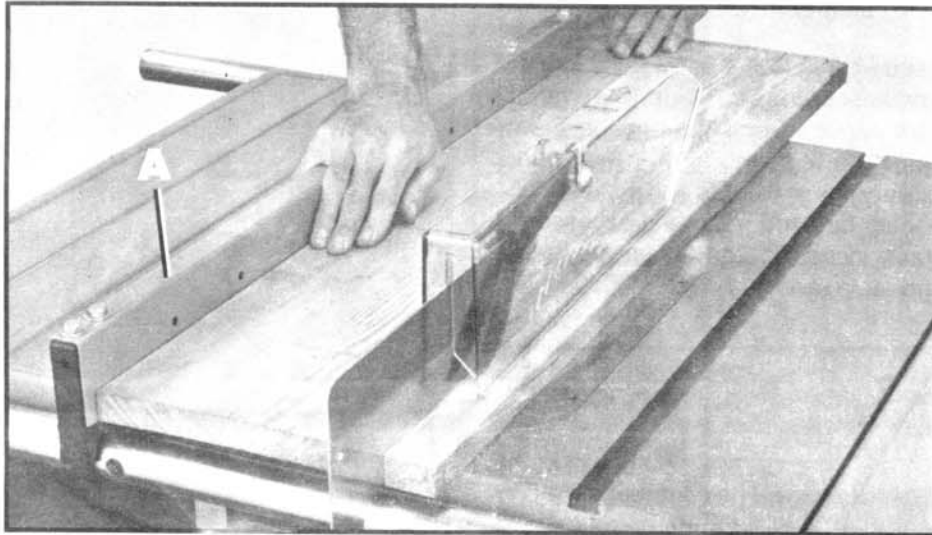

Fig. 60
Ripping is the operation of making a lengthwise cut through a board, as shown in Fig. 60, and the rip fence (A) is used to position and guide the work. One edge of the work rides against the rip fence while the flat side of the board rests on the table. Since the work is pushed along the fence, it must have a straight edge and make solid contact with the table. The saw guard must be used. The guard has anti-kickback fingers to prevent kickback and a splitter to prevent the saw kerf from closing and binding the blade.
Start the motor and advance the work holding it down and against the fence. Never stand in the line of the saw cut when ripping. Hold the work with both hands and push it along the fence and into the saw blade as shown in Fig. 60. The work can then be fed through the saw blade with one or two hands. After the work is beyond the saw blade and anti-kickback fingers, the hand is removed from the work. When this is done the work will either stay on the table, tilt up slightly and be caught by the end of the rear guard or slide off the table to the floor. Alternately, the feed can continue to the end of the table, after which the work is lifted and brought along the outside edge of the fence. The cut-off stock remains on the table and is not touched with the hands until the saw blade is stopped, unless it is a large piece allowing safe removal. When ripping boards longer than three feet, it is recommended that a work support be used at the rear of the saw to keep the workpiece from falling off the saw table.